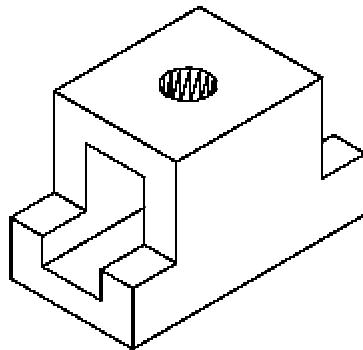

Figure 24-30 Model after subtraction
12. Subtract this cylinder from the existing model (Figure 24-30).